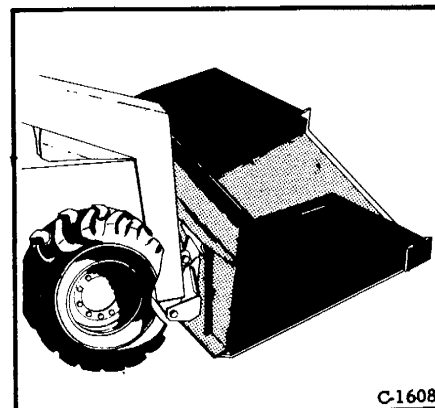

Fig. 14 Locking Position
4. Roll back Bob-Tach allowing attachment to swing into position on lower portion of Bob-Tach frame (Figure 14).